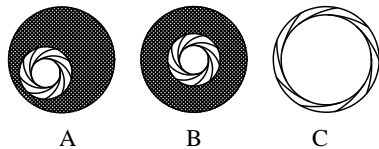

Figure 8
2) **Condenser Alignment** – to center the Abbe condenser in the optical light path, see Figure 8.
a. If the condenser out of center, you will see an image similar to Figure 8 A. The image may be out of focus and out of center.